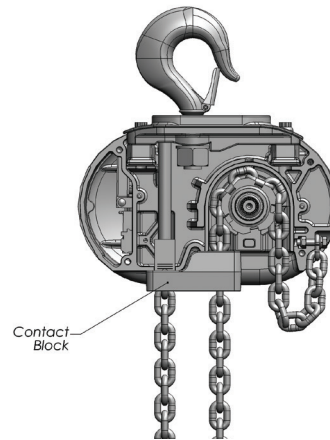

Figure 9. Contact Block Used on Model R
2. On Models E and H insert the last link of the load chain into the dead end block (1) and secure it with the dead end pin, washer and cotter pin furnished with the suspension. Ensure there are no twists in the chain.
3. On Model R, slide the contact block up the chain until it is against the bottom of the hoist and the dead end block is projecting through the square opening in the bottom of the block. Insert the last link of the load chain, making sure there are no twists between the hook block and the dead end block, into the dead end block. Push the contact block up slightly and secure the load chain to the dead end block using the dead end pin, washer and cotter pin furnished with the suspension. The dead end pin also supports the contact block (see Figure 9).